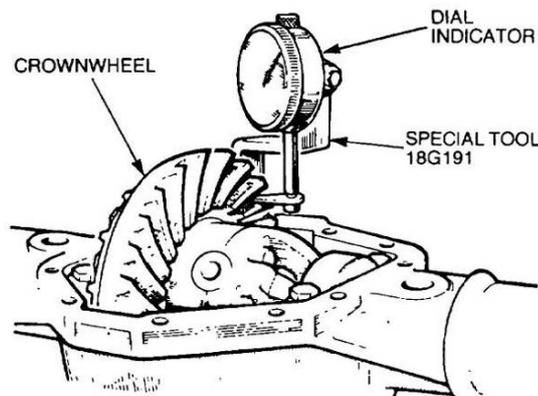

Figure 248 Final Check of the Differential Backlash
- v.** Position a dial indicator on the axle casing and place the stylus on a crownwheel tooth (Figure 248). Hold the pinion shaft flange and check the backlash between the crownwheel and pinion gear teeth. If the backlash is not between 0.15 to 0.27 mm (0.006 to 0.011 in) repeat the procedure described in Paras 77. n. to t.